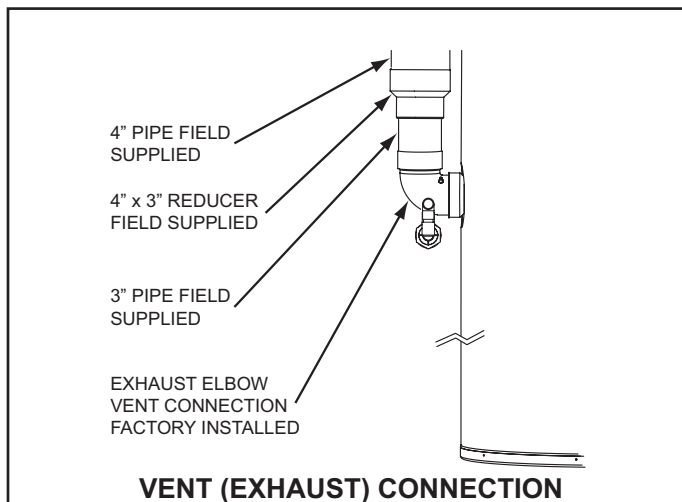

Figure 14
11. If installing 4 inch pipe transition to 3 inch pipe at the exhaust elbow on the water heater as shown in Figure 14. The field installed 3" pipe between the exhaust elbow and the 4" x 3" reducer coupling should be 18 inches (45 cm) or less in length.
12. If installing 4 inch vent pipe transition to 3 inch pipe at the exhaust elbow on the water heater as shown in Figure 14 on page 23. The field installed 3" pipe between the exhaust elbow and the 4" x 3" reducer coupling should be 18 inches (45 cm) or less in length.